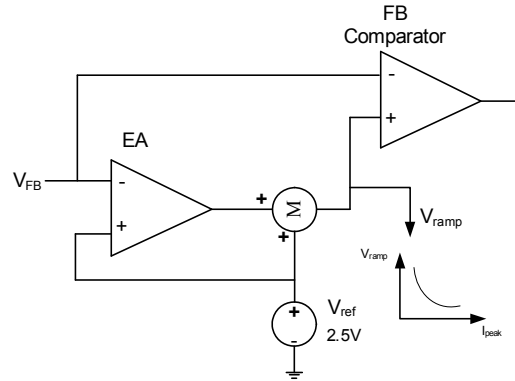

Figure 5: EA and Ramp Compensation
To improve load regulation, the MP155 implements an error amplifier (EA) compensation function (Figure 5). The MP155 samples the feedback voltage 6 μs after the MOSFET turns off. EA compensation regulates the 2.5V reference voltage with the load, thus improving the power module regulation.
An internal ramp compensation circuit precisely maintains the output voltage. An additional exponential voltage sinking source pulls down the feedback comparator's reference voltage as shown in Figure 5. The ramp compensation is relative to the load conditions: Under full-load conditions, the compensation is $\sim 1\text{mV}/\mu\text{s}$; with a decreasing load, the compensation increases exponentially.